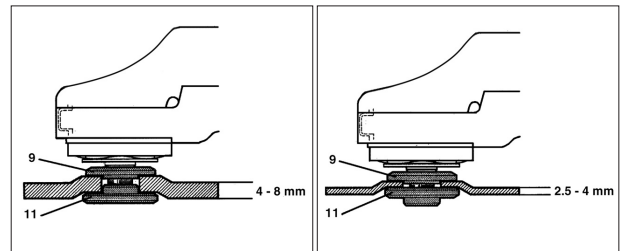

Fig. 5
Fig. 5 and 6 show how to mount the flange (11) when using thick (4 – 8 mm) and thin (2,5 – 4 mm) discs.